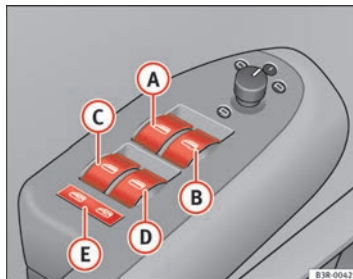

Fig. 80 Detail of the driver's door: Control switches
- A** Switch ⇒ fig. 80 for the driver's door window
The safety switch ⇒ page 109, fig. 80 **E** can deactivate the rear door switches. The windows can only be operated from the rear when the safety switch is pressed in.